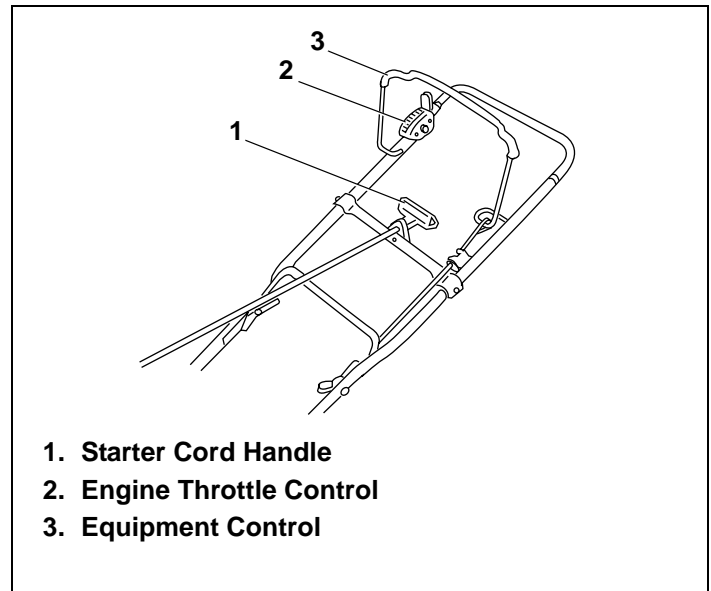

Figure 25. Typical Engine Controls
2. Move engine throttle control to "CHOKE" or "START" position, if present (see equipment manufacturer's instructions). See Figures 25 thru 27.
4. Operate equipment control to release engine brake or clutch, if present (see equipment manufacturer's instructions). See Figure 25.
5. Grasp starter cord handle. See Figure 25.
- a. Move engine throttle control to "FAST" position. See Figures 25 thru 27.